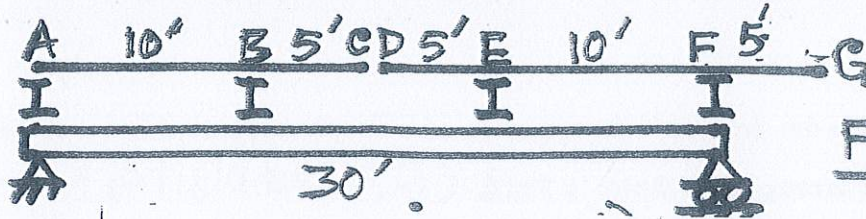

FIG 4
6. The girder supports a floor system as shown in Fig. 4 Draw influence line for : (i) Bending Moment at PP- E & (ii) Shear in Panel B-E. Also calculate the maximum shear force in Panel B-E for a UDL dead load of 8 k/ft, moving UDL live load of 12k/ft and a point load of P kips, where P = Last digit of Roll + 10 (12)